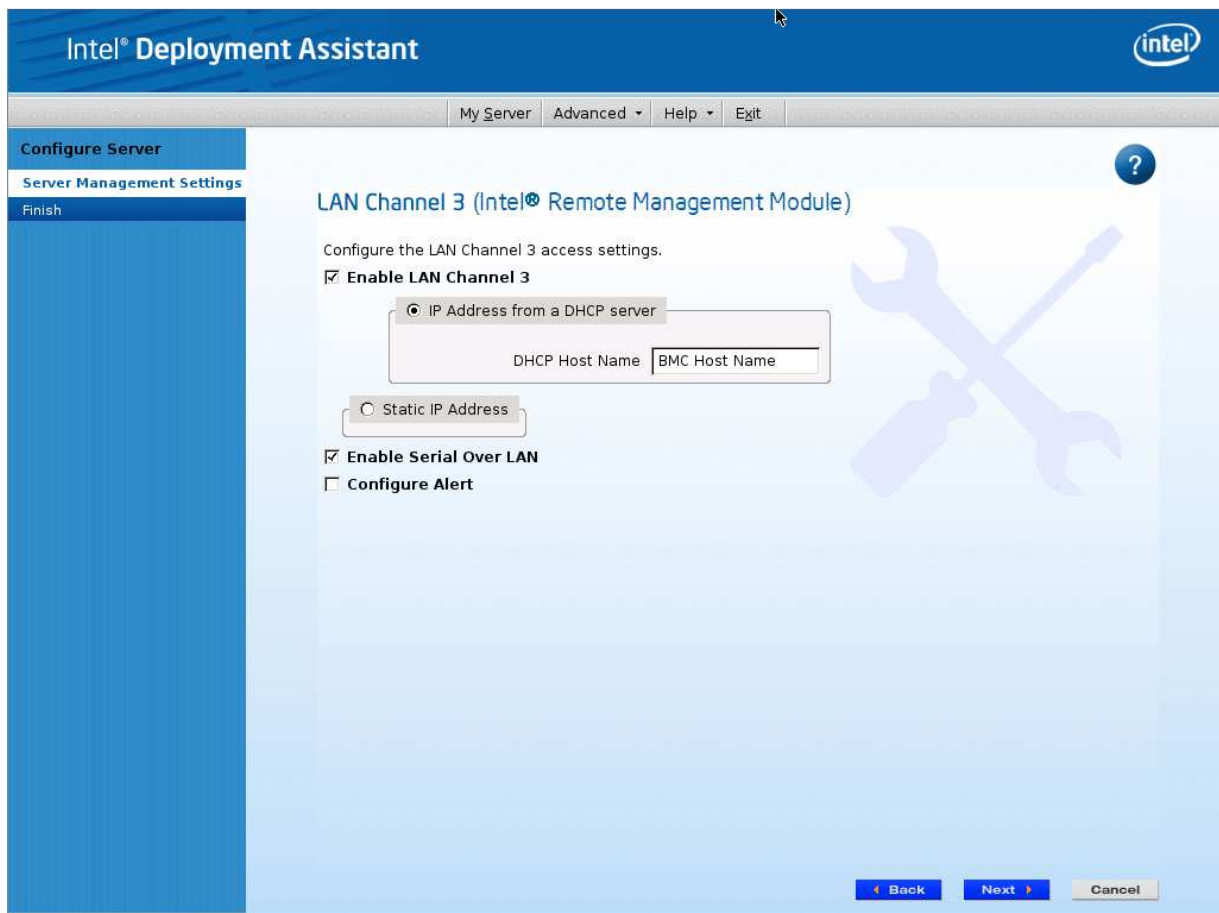

Figure 31: IDA Configure Server: Configure LAN Channel 3 (Intel® RMM4 DMN) IP Address from a DHCP Server Window
- a. If **IP Address from a DHCP server** is selected, configure the **DHCP Host Name** as shown in Figure 31.